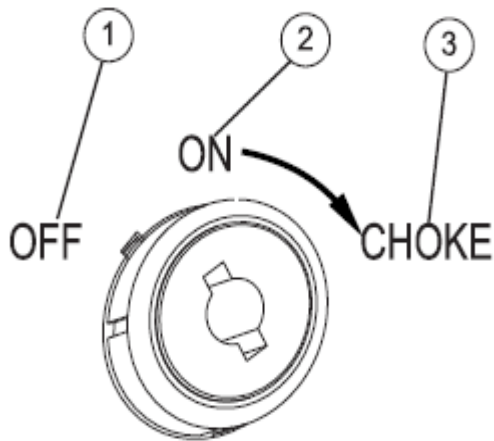

Figure-9 Off / On / Choke Positions
- \* Turn the 3-in-1 switch the off/On/Choke switch to “CHOKE” (1)
- \* **See Figure-9.** When engine starts, rotate OFF/ON/CHOKE dial to “ON” (2). Choke operation is reduced as OFF/ON/CHOKE dial is rotate towards “ON”.